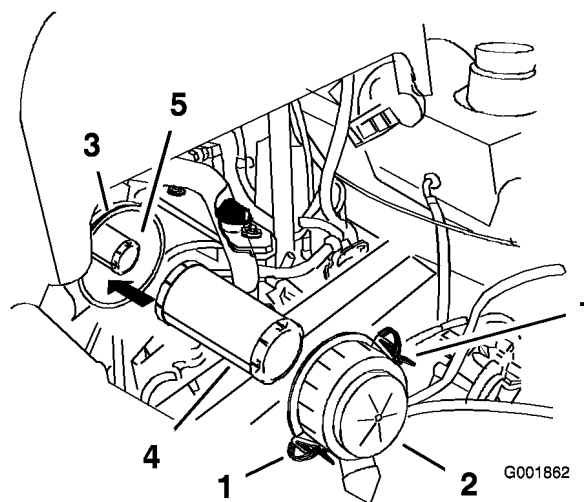

Figure 41
1. Do not clean the paper filter. Replace it after 200 operating hours (Figure 41).
2. If the safety filter is being replaced, carefully slide it into the filter body (Figure 41).
3. Carefully slide the primary filter over the safety filter (Figure 41). Ensure that it is fully seated by pushing on the outer rim of the filter while installing it.
4. Release the latches on the air cleaner and pull the air cleaner cover off of the air cleaner body (Figure 41).
6. Gently slide the primary filter out of the air cleaner body (Figure 41). Avoid knocking the filter into the side of the body.
4. Install the air cleaner cover with the side indicated as UP facing up and secure the latches (Figure 41).